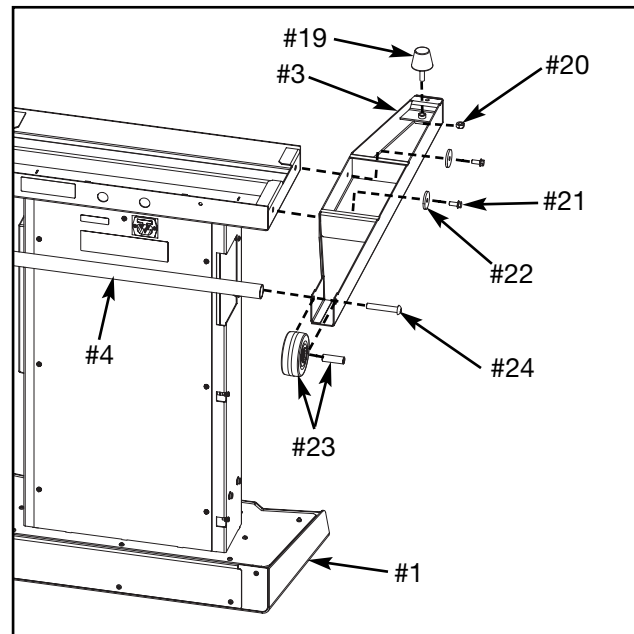

Figure 4
- C. Locate the right foot (#3) and two screws 1/4-20 X .625 (#21) and two washers (#22). See Figure 4.
- D. Locate wheel (#23) and bolt 3/8 X 2.25 (#24). See Figure 4.